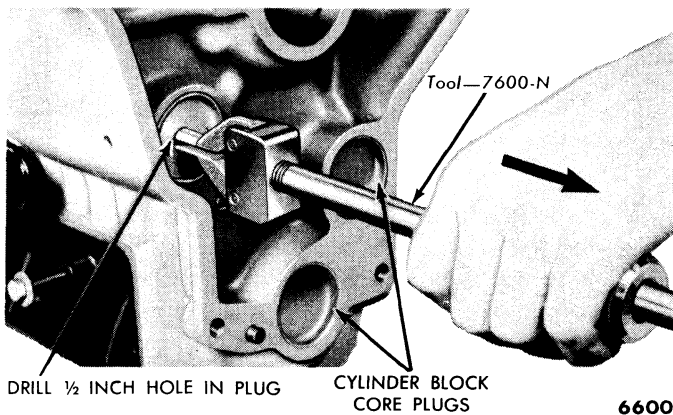
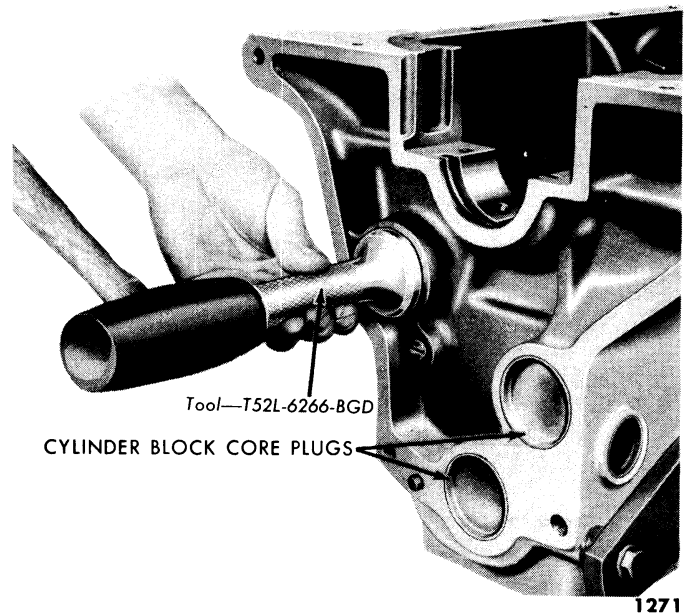

Fig. 36—Expansion-Type Plug Removal—Typical
Fig. 37—Expansion-Type Plug Installation—Typical
(2) **REPAIRS.** To remove an expansion-type plug, drill a $\frac{1}{2}$ inch hole in the center of the plug and remove the plug as shown in fig. 36. Clean the plug recess thoroughly. Coat the flange of the new plug with sealer and install it with the flange facing out. Drive the plug in until the flange is flush or slightly below the casting surface (fig. 37).